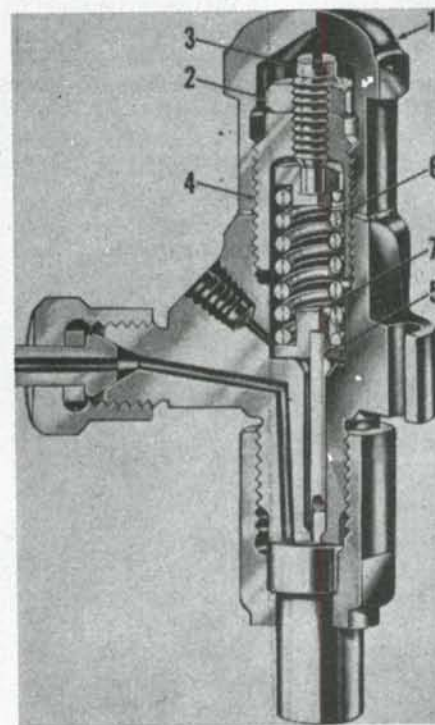

Fig. AC62C — Injection nozzle sectional view.
149B. OVERHAUL OF NOZZLE HOLDER. (Refer to Fig. AC62C.) Remove cap nut (1) and gasket. Loosen jam nut (2) and adjusting screw (3). Remove the spring retaining nut (4) and withdraw the spindle (5) and spring (6). Thoroughly wash all parts in clean diesel fuel and examine the end of the spindle which contacts the nozzle valve stem for any irregularities. If the contact surface is pitted or rough, renew the spindle. Examine spring seat (7) for tightness to spindle and for cracks or worn spots. Renew the spring seat and spindle unit if the condition of either is questionable. Renew any other questionable parts.